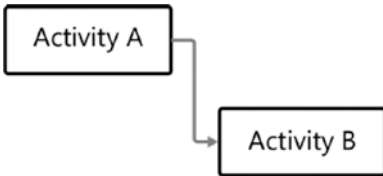

Figure 4-3. *Finish-to-start relationship*
- *Finish-to-start (FS)*: The successor activity cannot start until the predecessor activity has finished. For example, you cannot erect the walls of a house until the foundation has been completed. Figure 4-3 depicts how this would be represented diagrammatically.